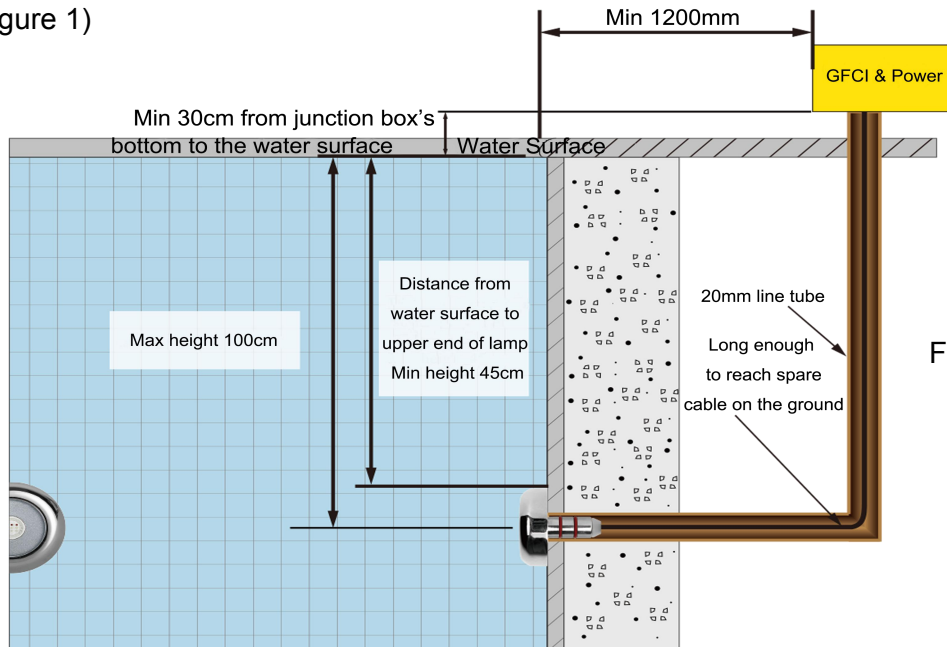

Figure 1
- 5) To achieve synchronization of underwater lights, all underwater lights must be correctly connected to the same switch. (See Figure 1)